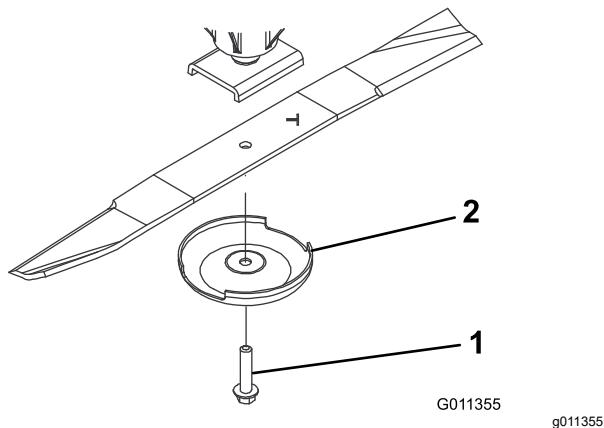

Figure 83
3. Remove the blade bolt, anti-scalp cup, and blade from the spindle shaft (Figure 83).